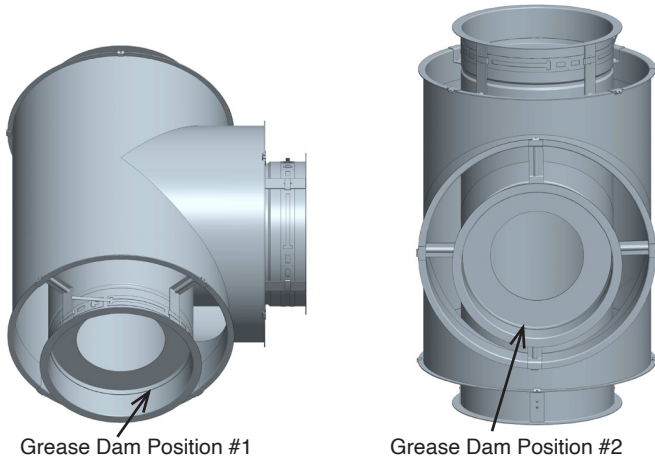

Figure 93a - Grease Dam Position #1 Figure 93b - Grease Dam Position #2
To comply with the NFPA 96 requirements, the T90D# is comprised of a T90 equipped with a 1 1/2" wide circular "donut" welded in place (serve as a dam) at any access port and must be closed with a Tee Cap (TC) or a No Tool Tee Cap (NTTC). The location of the access port in the Tee is dependent on the orientation of the tee in the final installation. Access port location is coded as shown in Figure 93a and Figure 93b for the two options.